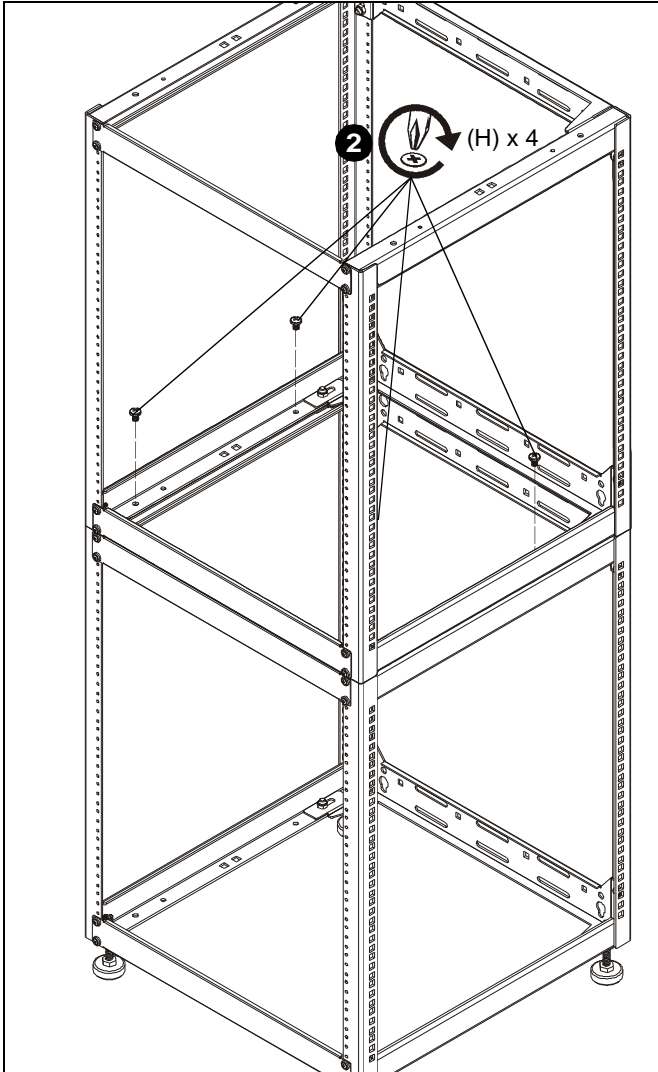

Figure 9
- Use four 1/4-20 x 3/8" Phillips screws (H) to secure second rack to first rack. (See Figure 9)